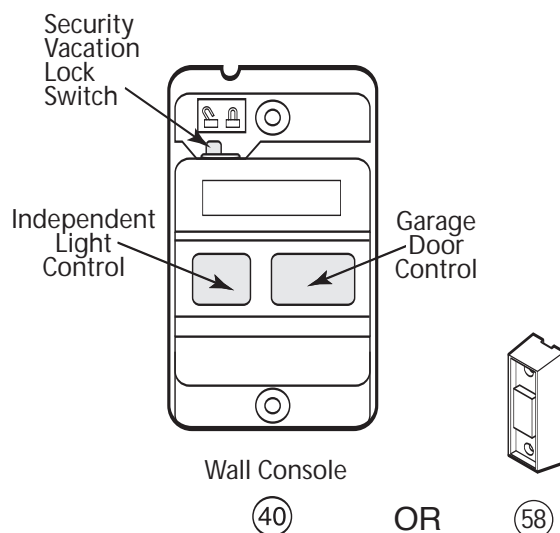

Figure 30 Wall Control
- A Wall Console (Figure 30):**